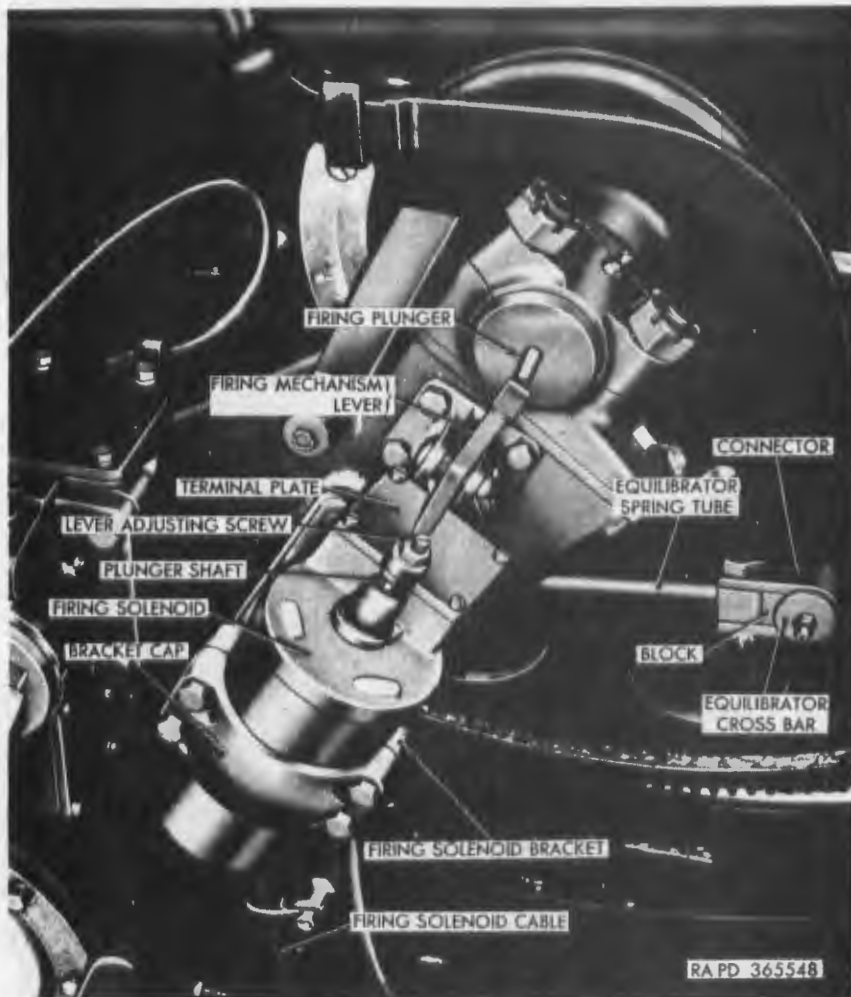

Figure 263. Left firing solenoid and equilibrator spring tube—installed view.
- (4) Place gun mount in power operation (par. 59b(1)). Turn fire control safety switch (fig. 28) to the ON position and depress trigger assembly in each hand grip singly, or both and simultaneously while observing action of firing solenoids (fig. 263). Action of firing solenoids should be immediate and positive.
- (2) *Firing solenoids* (fig. 263). Inspect action of each firing solenoid by pulling up on firing mechanism lever to free plunger shaft. Move shaft up and down and rotate. Check for any binding of shaft. Using a thickness gage, check clearance between each firing mechanism lever and the firing plunger in the gun trunnion. Clearance can be
d. Replacement of Firing Solenoid (fig. 263). The replacement of either the left or right firing solenoid is identical.